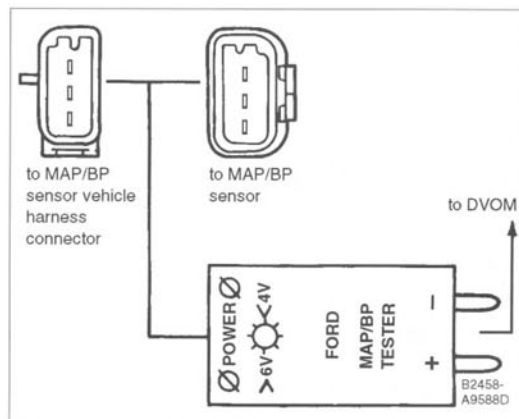

Fig. 3-3. Measure MAP/BP voltages at the BreakOut Box, or at the plugs of the Ford MAP/BP tester.
2. Ford MAP/BP Tester, shown in Fig. 3-3.